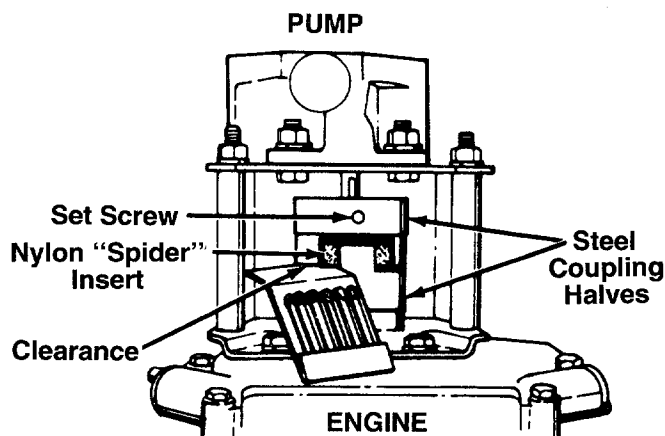

FIGURE 16.—Bottom View
11. Set .010 to .060 inch clearance between the nylon "spider" and the engine coupling half by sliding a matchbook cover between the nylon "spider" and the engine coupling half and moving pump coupling half as needed. Secure pump coupling half with set screw. See figure 16.